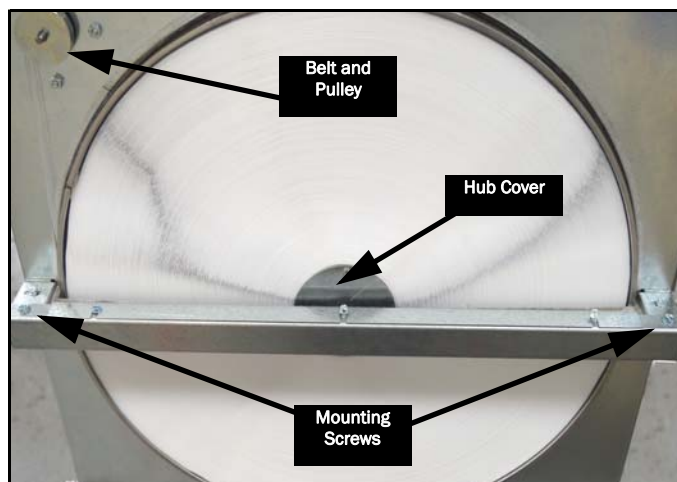

Figure 12 19 to 21 inch monolithic wheel.
- 3 If a beam is present on the pulley side, remove the mounting screw from each end of the beam, Figure 12.
- 5 Remove the two hub cover screws, Figure 12.
- 7 Remove the belt from the wheel, Figure 12.